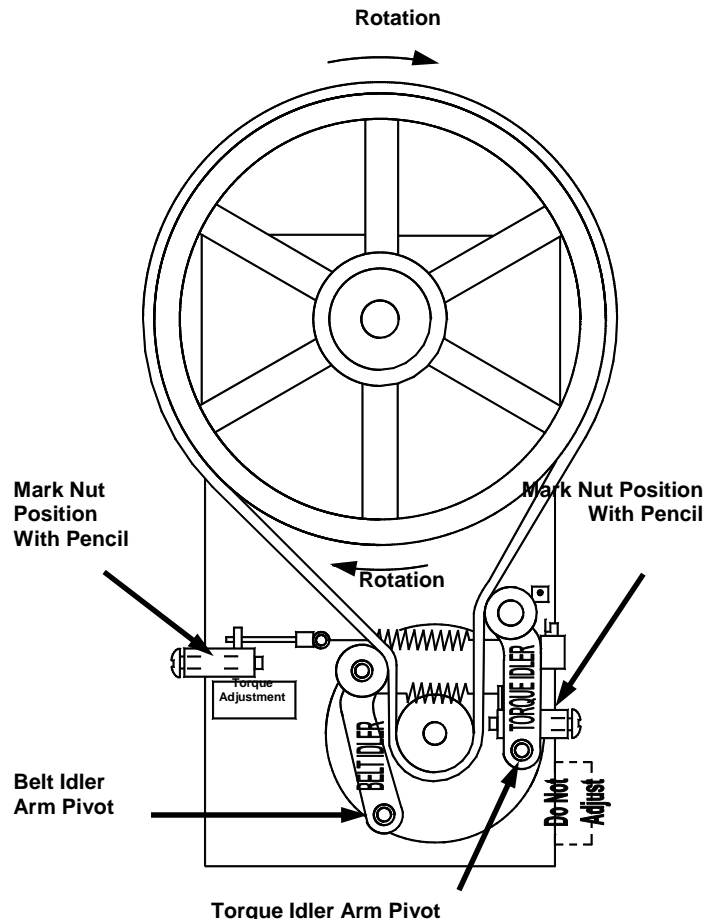

Fig. 26
Semiannually: It is advisable to clean and lubricate the idler arms (Fig. 26) to ensure their smooth operation. Use the following procedures:
3. Use a pencil to mark the position of the nut (Fig 26) on the side of the belt idler arm spring adjustment mechanism. Relieve the tension on the spring by turning the adjustment screw near the label which warns: **DO NOT ADJUST**. Disconnect the spring from the belt idler arm by placing needle nose pliers on one end of the spring and pulling the end out of the retainer.